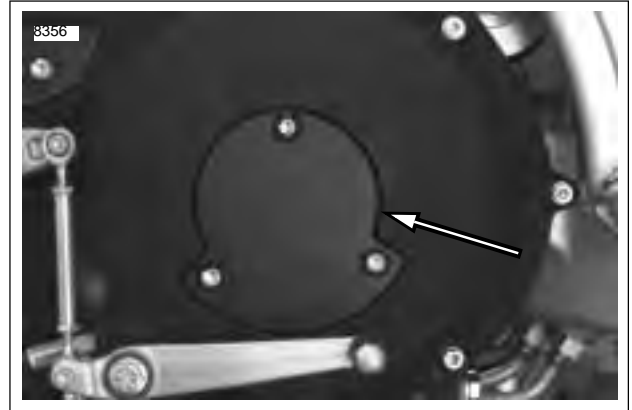

Figure 1-19. Clutch Inspection Cover
7. See Figure 1-19. Install clutch inspection cover tightening three fasteners and washers to 84-108 **in-lbs** (10-12 Nm).
3. See Figure 1-19. Remove three fasteners and washers from clutch inspection cover. Remove clutch inspection cover and gasket from primary cover.
8. See Figure 1-19. Install clutch inspection cover and **new** gasket using three fasteners and washers and tighten to 84-108 **in-lbs** (10-12 Nm).